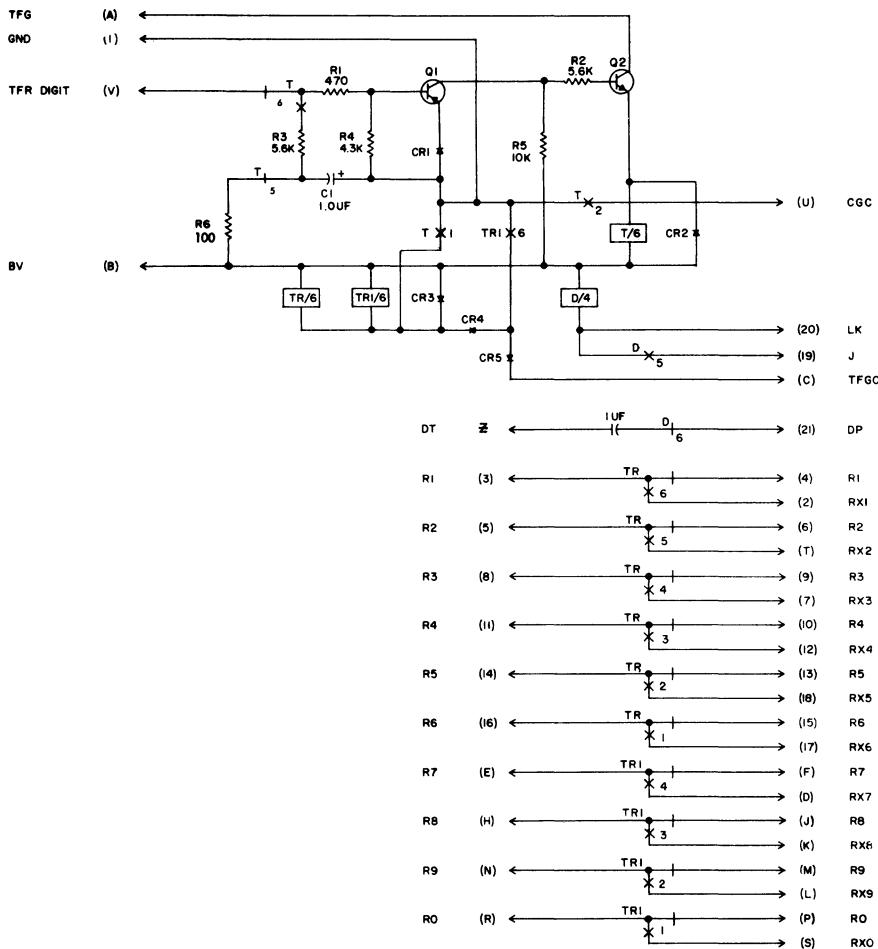

Fig. 7 - Circuit Diagram, K160B KTU
2.07 K160B, Dial Intercom KTU. One KTU is used for each additional nine dial codes. K160B KTUs are not furnished with the basic K357A unit but can be purchased separately to expand to 18, 27, or 36 intercom stations as required. See fig. 7.